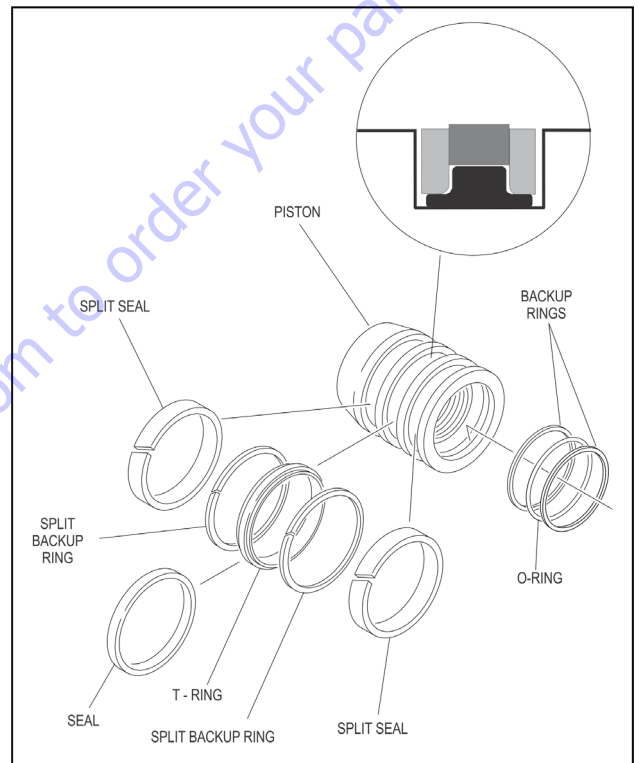

Figure 5-33. Piston Seal Kit Installation
NOTE: The backup rings for the solid seal have a radius on one side. This side faces the solid seal. (See magnified insert in Figure 5-33.) The split of seals and backup rings are to be positioned so as not to be in alignment with each other.
16. Place new guide locks and seals in the applicable outside diameter grooves of the cylinder piston. (See Figure 5-33., Piston Seal Kit Installation)